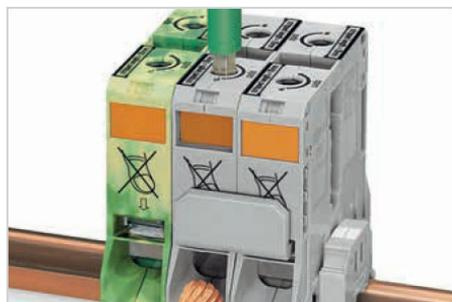

Fig.9: Opening of the "Power Cage Clamp"
– Use the tool 285-172 from WAGO to open the terminal according to fig.9